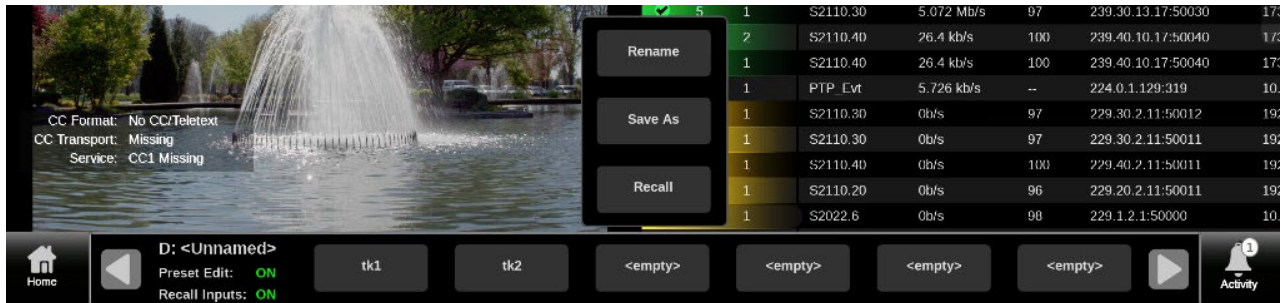

Figure 72: An example of an open preset menu, in Group D, the unassigned preset D3 is selected
A menu opens. (See Figure 72.)
- Select **Save As** to save the existing settings to the highlighted preset button and name it. (See Figure 72.)
- Select **Rename** and use the keyboard to enter a new name. (See Figure 72.)